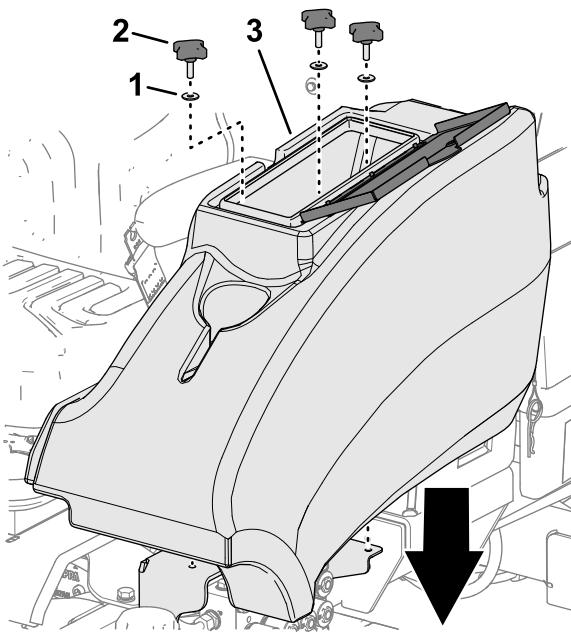

Figure 57
- Assemble the storage compartment to the machine with the 3 knobs and 3 washers (Figure 57)